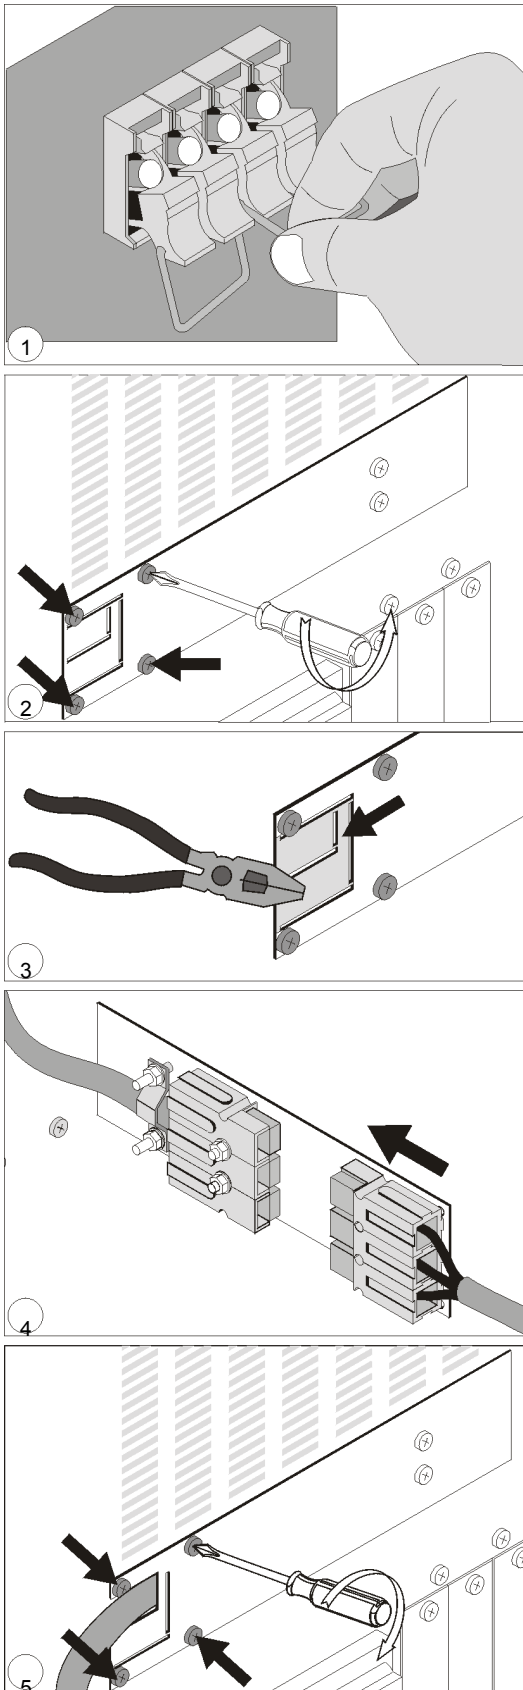

Figure 7. LP 5/6-31T:
3. Break out a part of the cover: a large part (grey in fig. 7) if your battery extension pack is equipped with a swivel (19, fig. 13a), otherwise a small part. If applicable, mount the swivel in the cover.
4. Connect the DC connector of the battery pack (15a) to the DC socket of the UPS (15). You will hear a click when the cable is properly installed.
6. In case of 14Ah battery packs: using the DC connector of the battery pack (15) you can install a second, third, etc. pack. 7Ah battery packs cannot be connected in series.
7. Insert the battery fuse of the UPS (17). Insert the 2 (7Ah) or 4 (14Ah) fuses of the (each) battery pack (18). Close the fuse holders (17, 18).